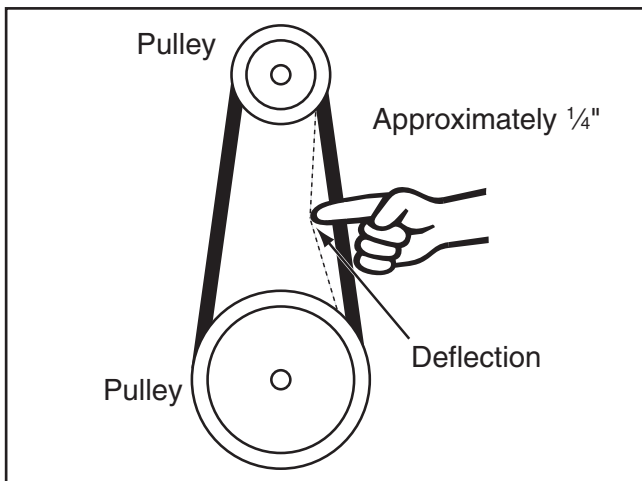

Figure 64. Checking the V-belt tension.
3. Check V-Belt deflection. The V-belt is properly tensioned if there is approximately $\frac{1}{4}$ " deflection. Deflection is checked by pushing the V-belt with moderate pressure, as shown in **Figure 64**, and noting how much it moves.